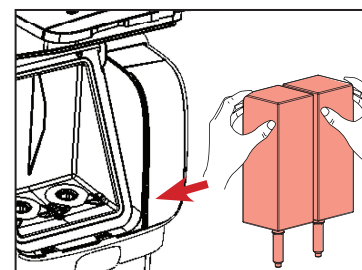

Fig.5
4. Clean the doser opening with a brush and the interior of the cooling compartment with a clean, damp cloth and dry with a clean cloth or paper towel (See Fig.4). Then replace the product packs (See Fig.5).